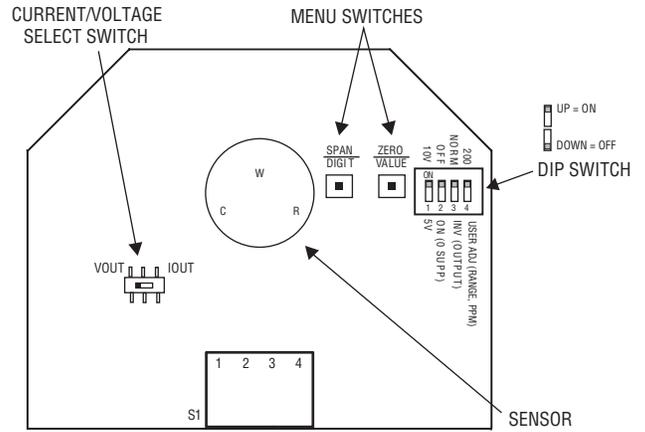

Figure 3
8. Set DIP SWITCH and IOUT/VOUT SWITCH as desired. Refer to Figure 3.
To access the current/voltage select switch, remove the cover of the unit. The current/voltage select switch is located on the circuit board as shown in Figure 3. Set the switch to "IOUT" for current, "VOUT" for voltage.
To access the DIP SWITCH, remove the cover of the unit. The DIP SWITCH is located on the circuit board as shown in Figure 3.
1. Remove the cover plugs from the face of the unit and top cover. Locate the sensor, see Figure 3 – the sensor is mounted on three pin sockets. The circuit board is labeled either "CO SENSOR" or "NO₂ SENSOR" underneath the sensor.